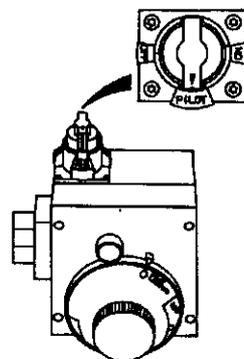

Figure 7
8. If you don't smell gas, turn knob on gas control counter clockwise (↺) to "PILOT" position. (Figure 7, page 17)